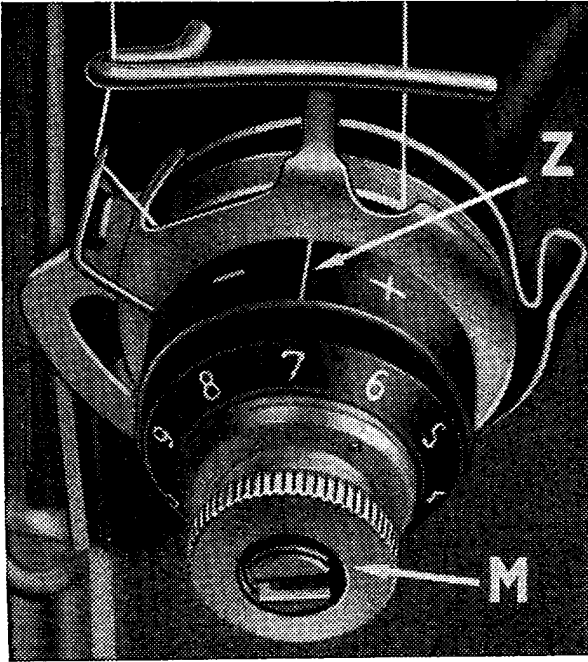

Fig. 22 To Regulate the Tensions
3. From there lead the thread down and around and upwards into the loop of the take-up spring (3) and pull the thread taut until it slips behind the small retaining fork (3 a), (see also Fig. 22).
To Regulate Thread Tensions (Fig. 22)
This tension can be changed only when the presser foot is down. By turning the regulating thumb nut (M, Fig. 22) the tension of